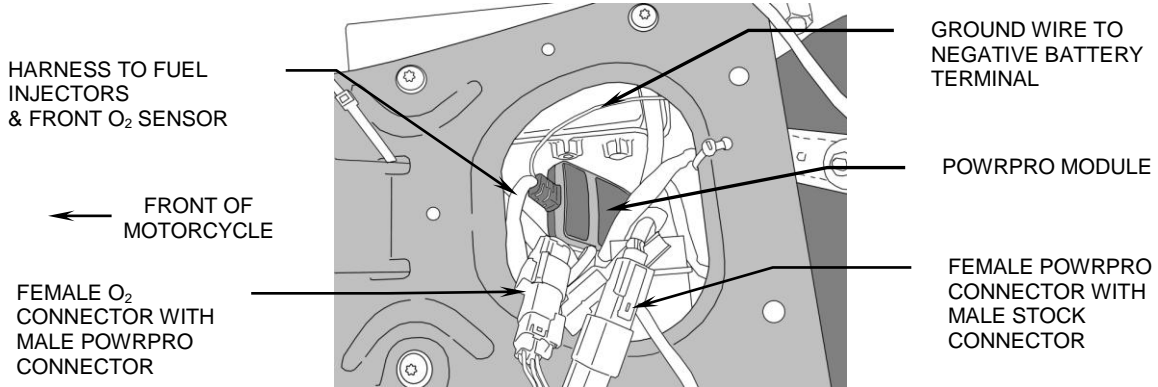

FIGURE 3
4. Pull existing wire harnesses out from under the seat frame area. Place the Powrpro tuner and harness in the area which is under the seat, see Figure 3. Route the two longer Powrpro harnesses through the left side cover area where the ECU was pulled out, see Figure 2, and continue routing both through the hole at the front of the left side cover inner housing, be sure to REVIEW in Figure 2! The longest harness must be routed to the right side of the motorcycle next to the starter, and ground lug on case. The other harness will go to the injectors. Once harnesses have been pulled into place, be sure to reinstall engine ECU back into place, being sure none of the harnesses get stuck on the other electrical components, it must snap back into place under the tab.
10. Locate the black waterproof connector in the wire harness bundle that was tucked down into the open area under the seat, see Figure 3. Unplug the female connector that comes from the rear oxygen sensor, and mate it with the male connector from the shorter Powrpro O₂ sensor harness. Mate the stock male connector with the female Powrpro connector. Be sure connectors are fully seated.
13. Remove the backing from the Velcro and attach the Velcro pad down between the back of the battery and the ECU on the flat area of the frame. Apply the mating Velcro to the back of the Powerpro and attach, see Figure 3.